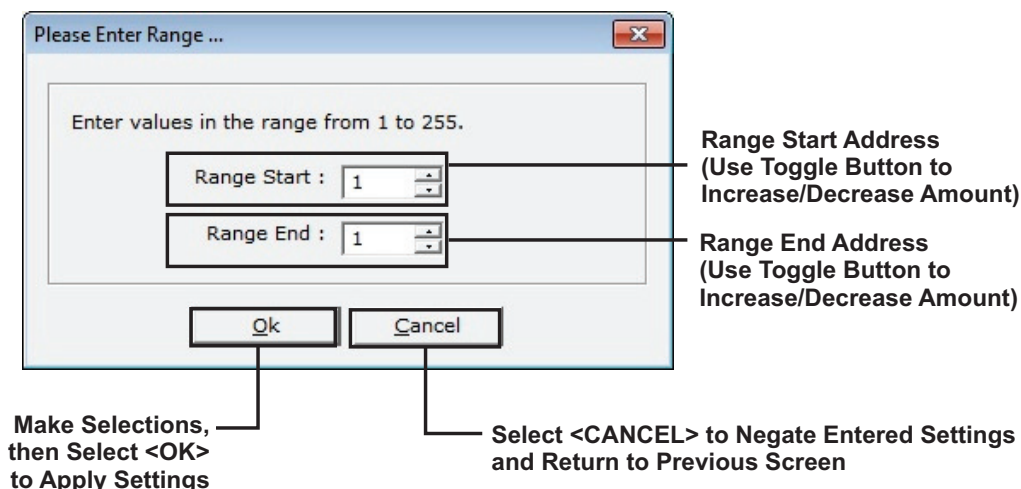

Figure 2-50. Device Range Definition for MACROs Screen
2. Select a device by either double-clicking on the device name or by highlighting the device name, and selecting **<OK>**. Figure 2-50 displays.